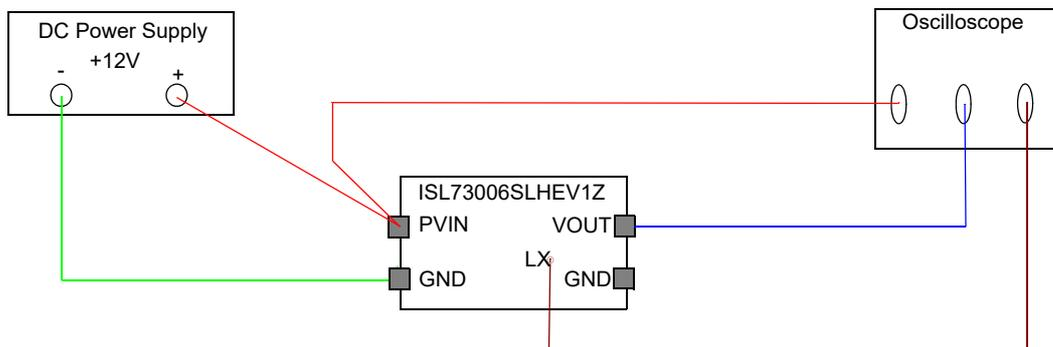

Figure 2. ISL73006SLH Basic Evaluation Test Setup Block Diagram
1. Configure the board as shown in Figure 2.